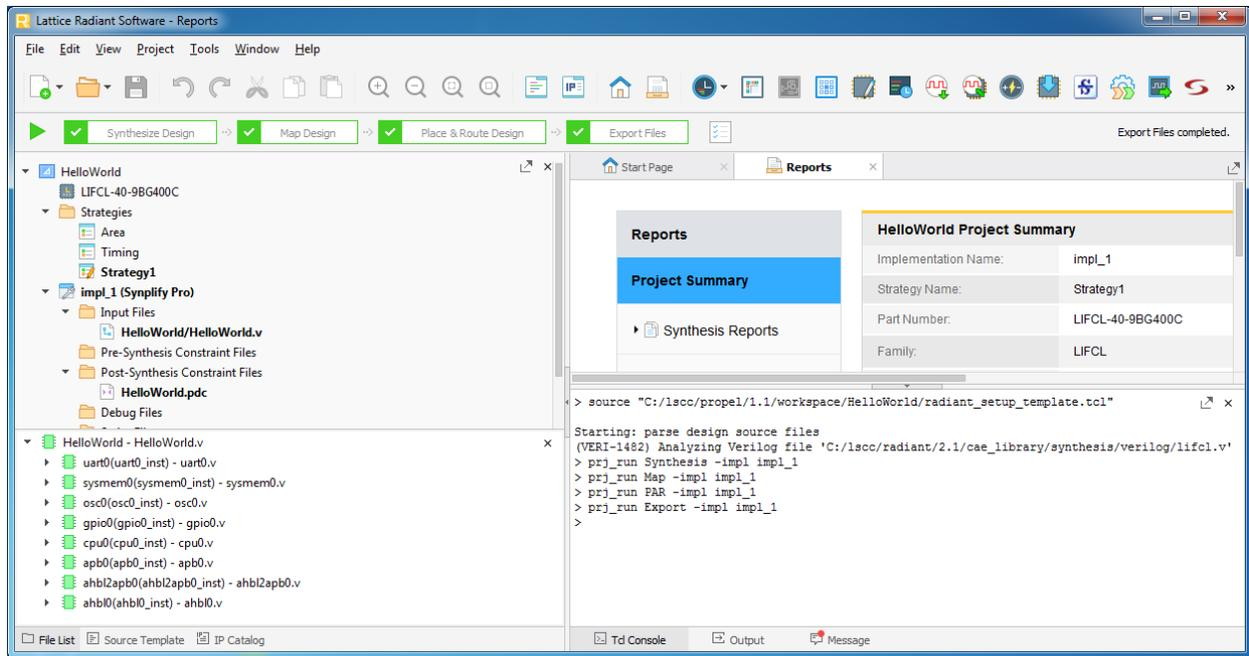

Figure 2.46. Radiant Project
- b. Lattice Radiant is launched with a Radiant project generated for SoC at background (Figure 2.46).